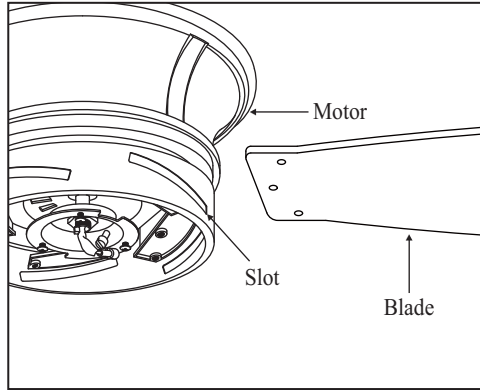

Figure 13
1. Insert the blade through the slots in the bottom band. (Fig. 13)